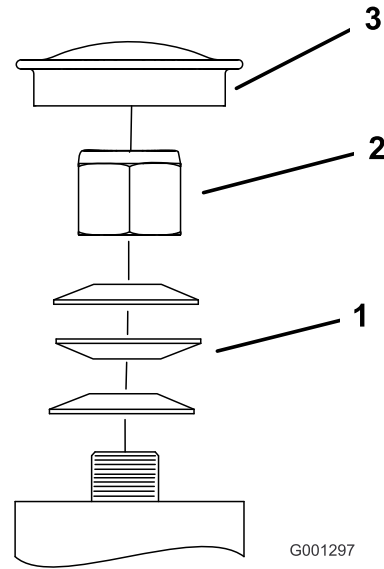

Figure 55
3. Remove the dust cap from caster and tighten lock nut (Figure 55).
4. Tighten the locknut until the spring washers are flat and then back off a 1/4 turn to properly set the pre-load on the bearings (Figure 55).
Important: Make sure spring washers are installed correctly as shown in Figure 55.
5. Install the dust cap (Figure 55).